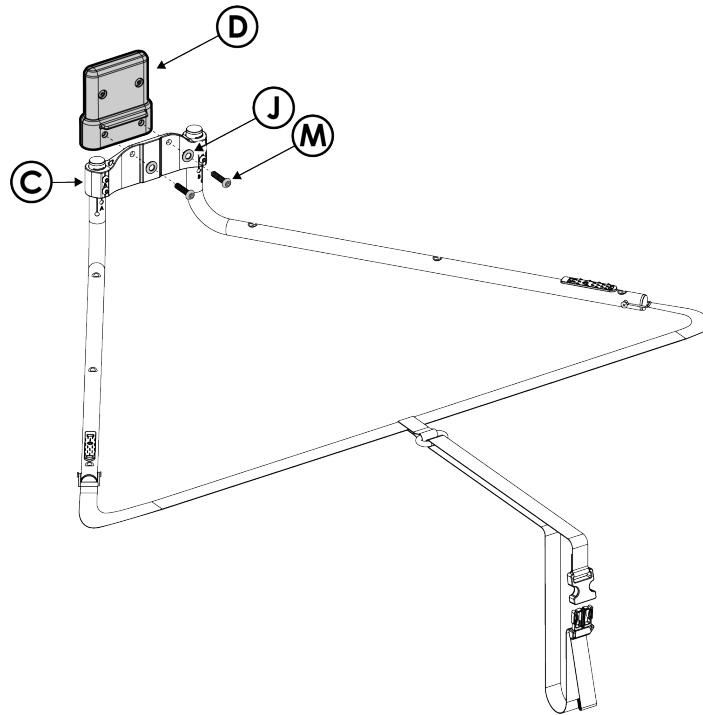

FIGURE 8
8. Secure **D** using **J** and **M** with provided tool (**G**) see *FIGURE 8*.